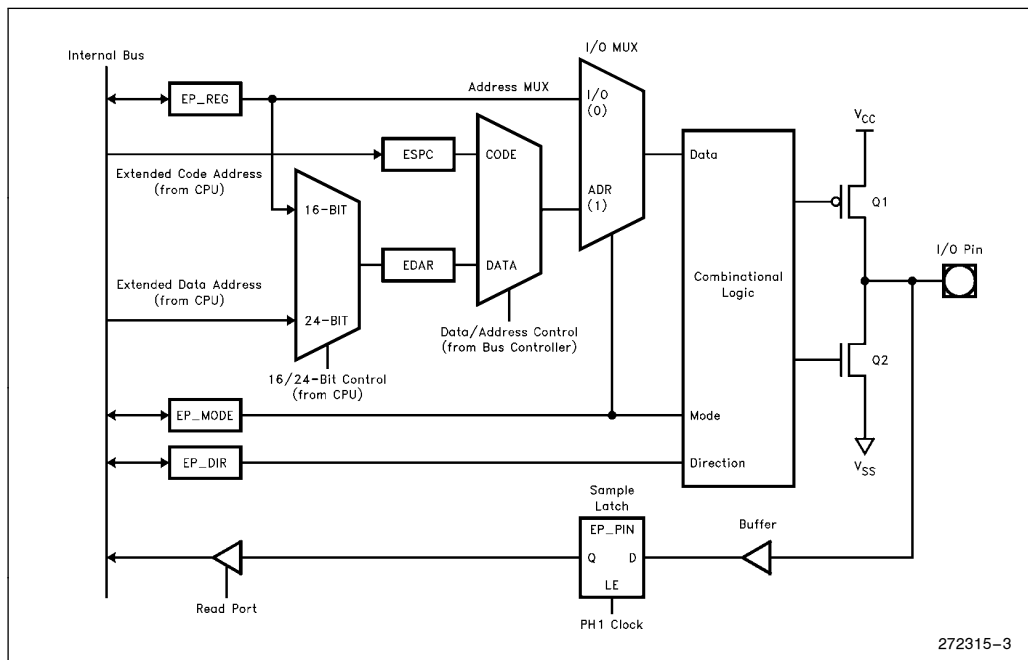

Figure 4-1. EPORF Block Diagram
A **block diagram of the EPORF** is shown in Figure 4-1. The extended address either accesses data using the contents of the extended data address register (EDAR) or executes code using the address in the extended slave program counter (ESPC). If the EP\_MODE and EP\_DIR registers are configured for the addressing function and code is to be executed or data retrieved from an extended address, this extended address will be placed onto the EPORF pins. If a 16-bit instruction is executed and the device is in 24-bit mode, the contents of the EP\_REG will determine the highest byte of the extended address. Therefore, the contents of the EP\_REG should contain the correct extended address for the registers in the 16-bit instruction. If the device is in 16-bit mode and the port is configured for the addressing function, the EPORF pins will default to 0Fh. If the EP\_MODE and the EP\_DIR registers are configured for the I/O function, the contents of the EP\_REG register is placed on the EPORF pins and the contents of the EP\_PIN register is updated to the current value on the pins.
Understanding how the EPORT is loaded is important. The EPORT block diagram is shown in Figure 4-1. First, the extended data address register (EDAR) is 8 bits wide and concatenated with the 16-bit data address register (DAR) to make a 24-bit data address register. Notice in the EPORT block diagram that the EDAR is loaded from either the EP\_REG or the CPU data address bus. When using 16-bit instructions (LD, ST), EP\_REG is the source for the EDAR. When using the extended addressing instructions (ELD, EST) the CPU data address bus is the source. When using the 16-bit addressing instructions, the 1 Mbyte of memory can be viewed as sixteen 64 Kbyte memory sections. When it is desired to use the 16-bit addressing instructions on a particular page, use the extended store instruction to initialize EP\_REG to that page (see Code 5-1).
When MODE16 is set to a 1 the extended slave program counter (ESPC) is forced to FFh (see the EPORT block diagram Figure 4-1). The extended slave program counter is also 8 bits wide and is concatenated with the 16-bit program counter (PC) to create a 24-bit wide program counter. The extended program counter can be thought of as holding the page location value of the currently executing code. Hence, code fetches are limited to the 64 Kbyte region in page FFh when MODE16 is set to a 1. **In this mode extended branching instructions (EBR, EJMP, ECALL) do not work and must not be used.**